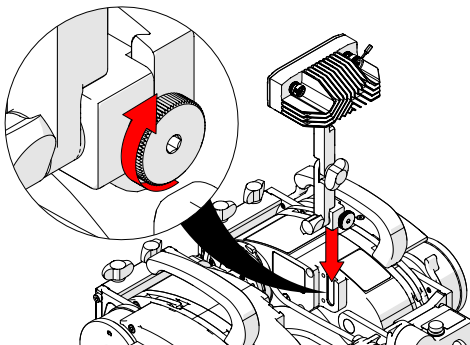

Fig. 21 - Attach bracket to the crawler and tighten thumb screw
4. Attach the bracket to the crawler's dovetail accessory mount (Fig. 21).
5. Tighten the thumb screw (Fig. 21).